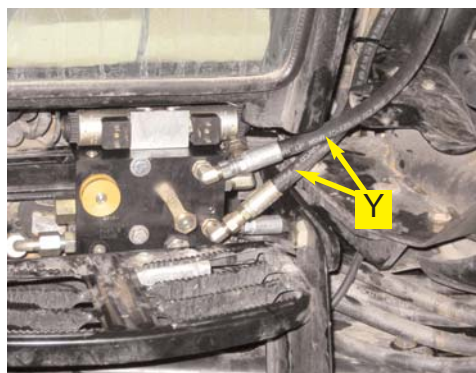

Figure 7b. Steering lines at the automated steering block.
b. Connect the hydraulic steering hoses (**Y**) from the **A** and **B** ports on the automated steering block to the branch of the counter-balance valve run tees (**N**). (Figure 7b. and 7c.)